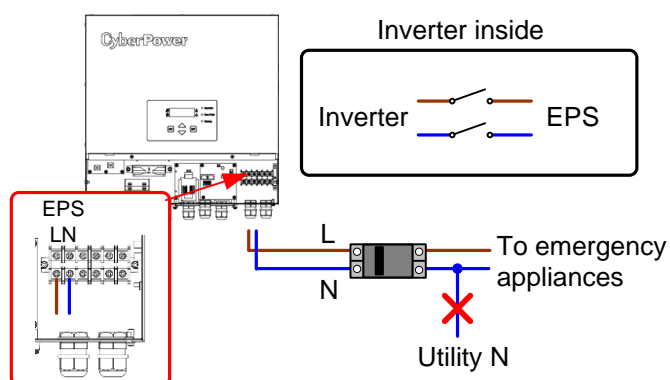

Fig. 3-6 EPS is floating
- Floating, refer to Fig. 3-6, connects to L & N terminals. Must set EPS port as “Float” via display (Setup / EPS Port / N Wir.), AC bypass function can be enabled.